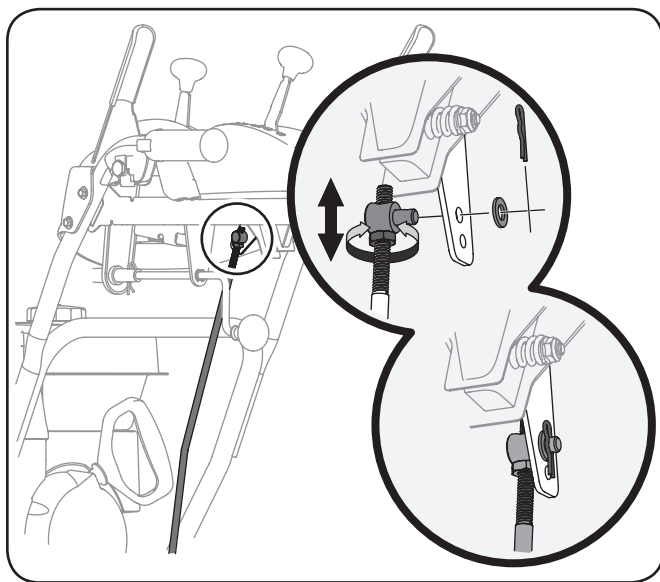

Figure 6-7
2. Remove the cotter pin and washer from the adjustment ferrule on the shift rod and pull it out from the shift lever. See Figure 6-7.
4. Rotate the ferrule up or down on the shift rod as necessary until the ferrule lines up with the upper hole in the shift lever. Make sure the shift lever is in the fastest forward position. Refer to Figure 6-7 inset.